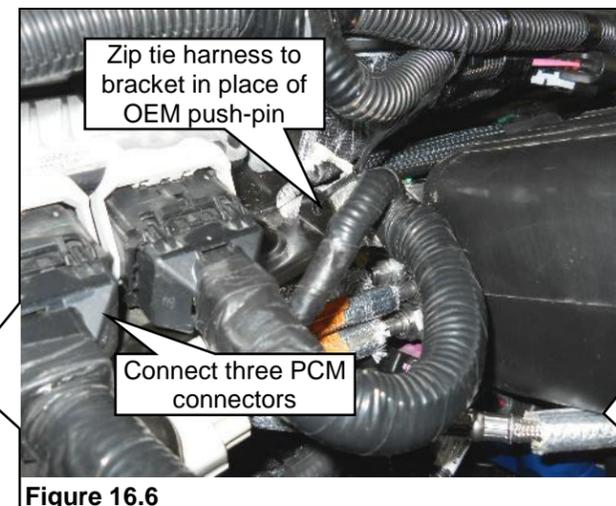

Figure 16.6
15. If the PCM is available and re-attached, connect the three PCM connectors and lock in place. Use a zip tie to secure the harness of the inner PCM connector. Tie the harness to the bracket in place of the OEM push-pin of the harness. **Figure 16.6.**